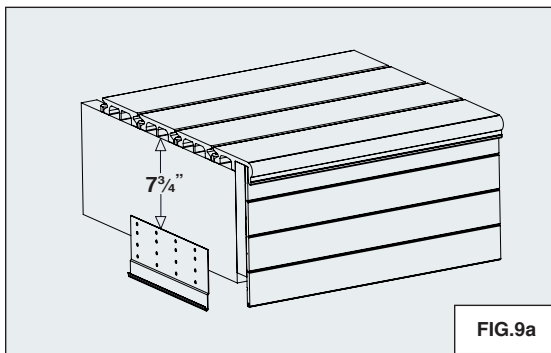

FIG.9a
- For installations with 12" fascia cladding, install the Cladding Hangers first. Screw the Cladding Hangers to the joist with four #8 x 1½" screws. The top edge of the Cladding Hangers should be installed 7 ¾" below the top of the joists. (REFER TO FIG.9a)